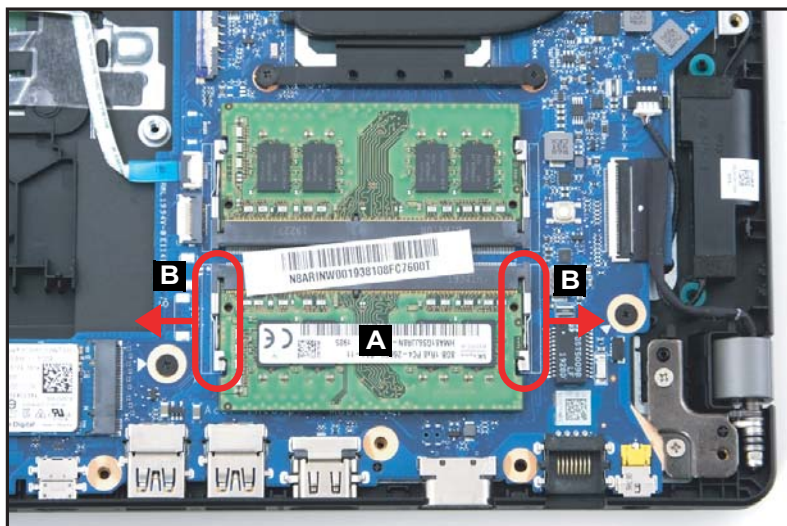

Figure 1-12. DIMM Module Removal
1. Find the DIMM module (A) in the system (Figure 1-12).
2. Push the DIMM module clips (B) outwards (Figure 1-12).